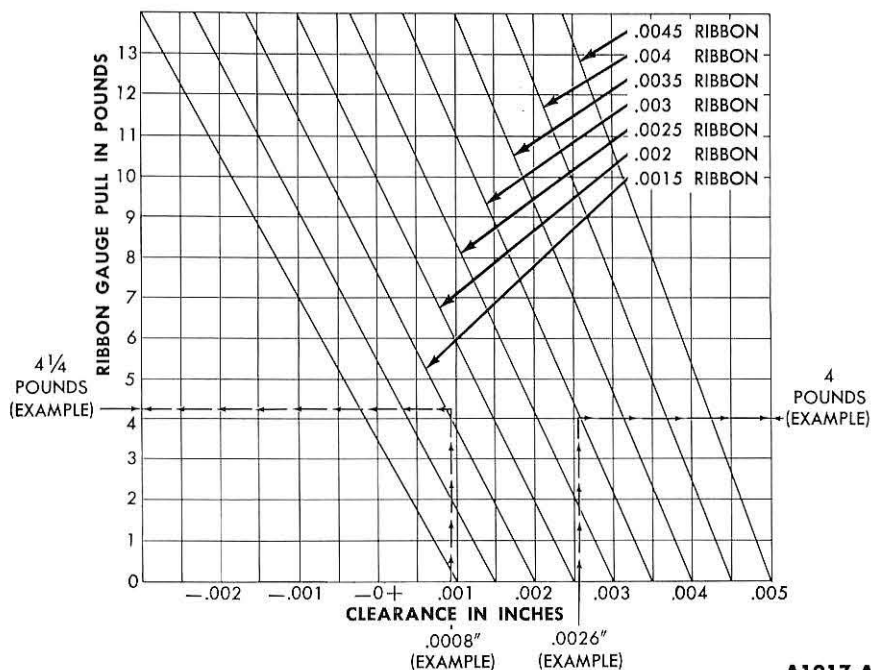

FIG. 40—Piston Clearance Chart
4. Attach a tension scale to the end of a feeler gauge ribbon that is free of dents or burrs. The feeler ribbon should be 1/2-inch wide and of one of the recommended thicknesses listed in Fig. 40.
In Fig. 40, the diagonal lines represent feeler ribbons of various thicknesses, the horizontal lines represent the pounds pull, and the vertical lines represent the clearances. To determine the clearance, locate the line representing the pounds pull required to remove the feeler ribbon from the cylinder bore. Follow the horizontal line to the right until it intersects the diagonal line representing the feeler ribbon. Read down the vertical line for the clearance.
Example 1. If a 0.0015-inch feeler ribbon is used and it takes approximately 4 1/4 pounds pull to remove the feeler ribbon, the clearance is approximately 0.0008 inch. This is determined by locating the pounds pull (4 1/4) in Fig. 40 and following the line to the right until it intersects with the diagonal line representing the 0.0015-inch feeler ribbon. Read down the vertical line for the clearance (approximately 0.0008 inch).